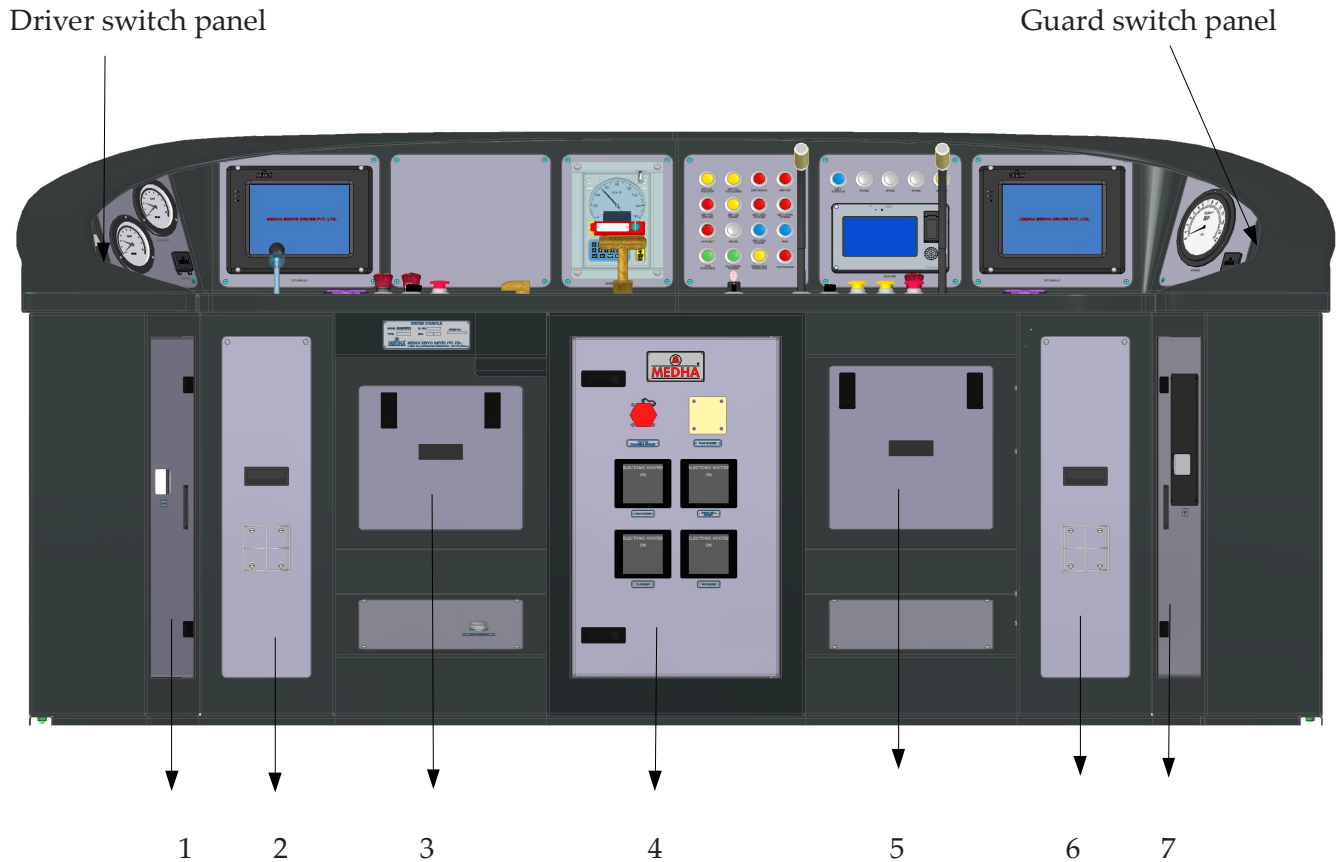

Figure 3: Covers for Maintenance
- Figure 3 : Covers for maintenance
The different components of the driver console can be accessed through the covers tagged in figure 3 below.